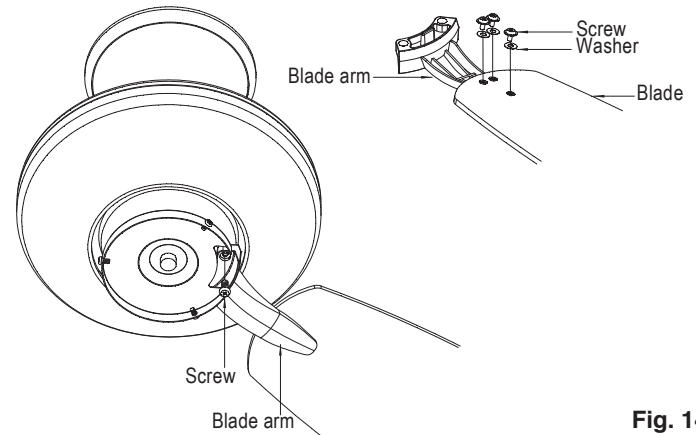

Fig. 14
Step 1. Attach the blade to the blade bracket using the screws and washers as shown in Figure 14. Start screw into bracket. Repeat for the two remaining screws.
Step 3. Fasten blade assembly to motor using blade arm screws. (Fig. 14)